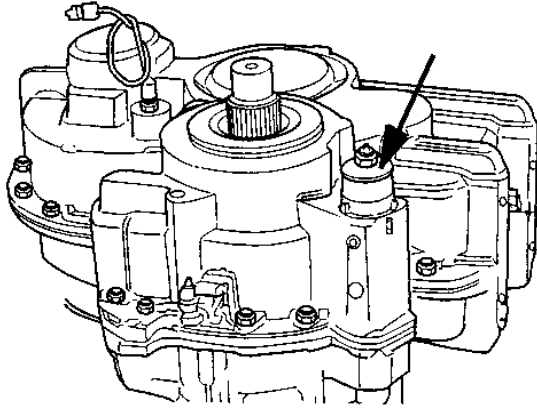

Figure 18 Remove Shift Cylinder (Arrow)
40. Disconnect the air lines from the high/low range shift cylinder and remove the shift cylinder from the rear cover of the transfer case (Figure 18).